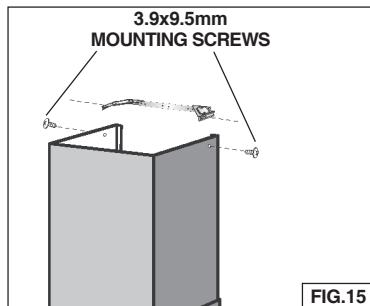

FIG.15
- Raise the upper flue until its holes align with holes in the flue mounting bracket (located on ceiling). Fig. 15.
- Secure the flue with (2) 3.9x9.5mm mounting screws. Fig. 15.